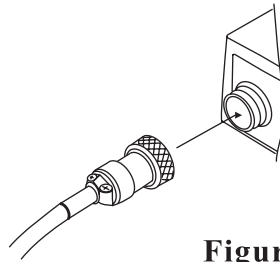

Figure 1A
1. Insert plug into jack, taking care to align the plug and jack properly. (See Figure 1A)